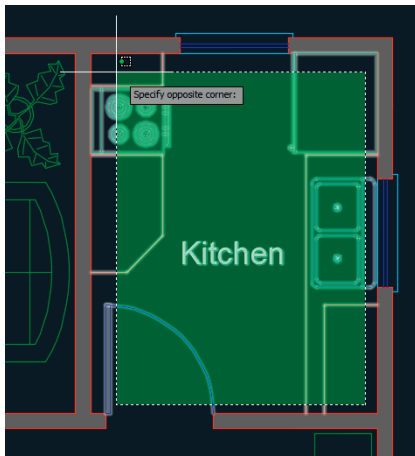

FIGURE 6.29 Isolating the contents of the Kitchen
1. Click the Isolate Objects button on the status bar and select Isolate Objects from the menu that appears. Select all of the objects inside the Kitchen with a crossing selection (see Figure 6.29).